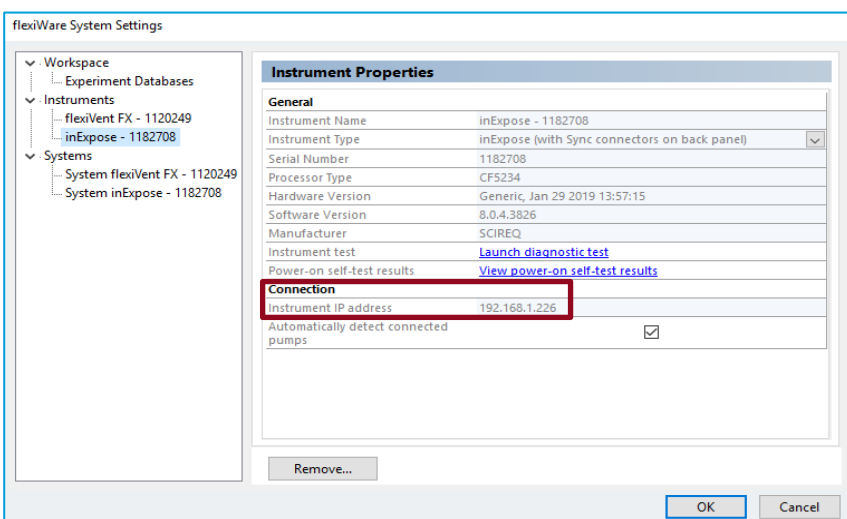

Figure 2-11: System Settings dialog; Instrument IP highlighted in red box
- To correct this, go into System Settings dialogue (Tools -> Systems Settings) of flexiWare to confirm that the instrument IP address is correctly set (Figure 2-11). The SCIREQ default instrument IP address should be in use unless it has been changed to accommodate multiple networked units. Default addresses are: 192.168.1.200 (flexiVent), 192.168.1.210 (inExpose), 192.168.1.230 (CSR/CSRi) For instructions on changing or verifying the set IP see Section 3.3.